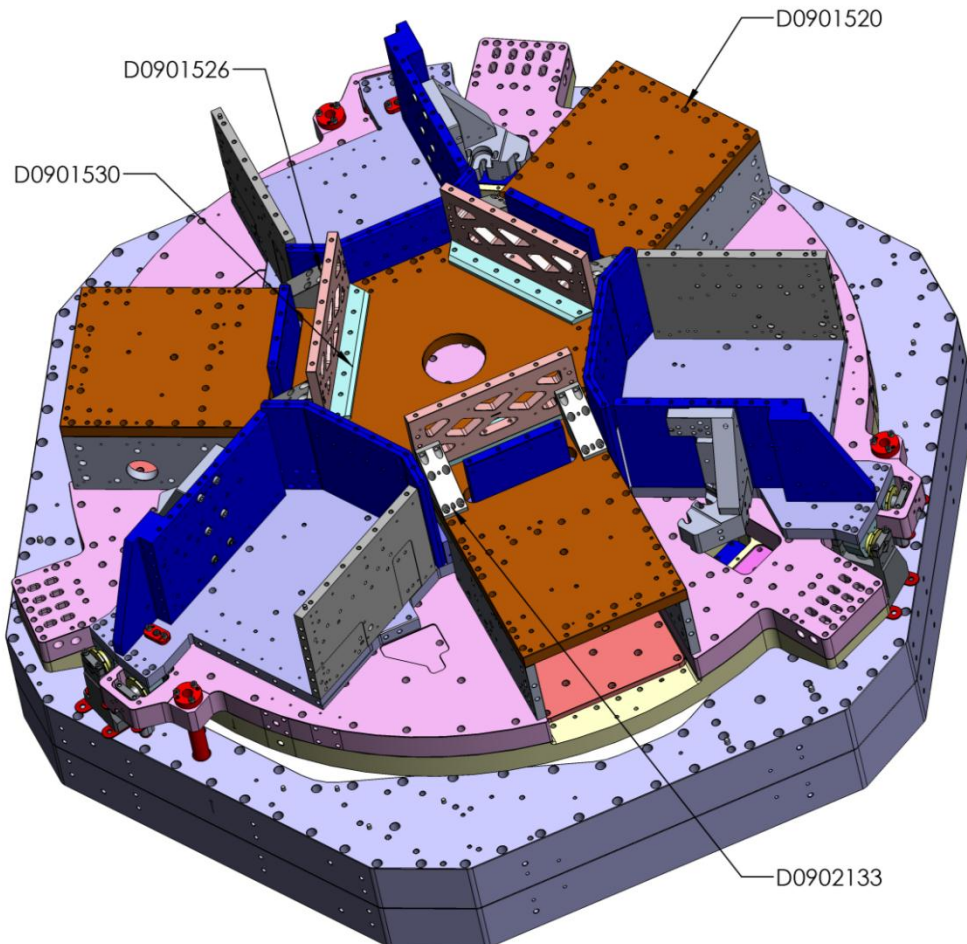

Figure 52: Assembly with D0902133 Hex Wall Gussets on
1.43. Attach (6) D0902133 Hex Wall Gussets to D0901520 Stage 2 Mid Plate.
- Locate (6) D0902133 Hex Wall Gussets on D0901520 Stage 2 Mid Plate with the (2) pins already installed in D091520 (see Figure 52). Make sure pins seat properly into mating hole and slot.
- Locate the Sub-Assembly D0901526 + D0901530 onto D0901520 Stage 2 Mid Plate with the (2) pins already installed in D091520 (see Figure 52). Make sure pins seat properly into mating hole and slot.
- Locate the Sub-Assembly D0901528 + D0901531 onto D0901520 Stage 2 Mid Plate with the (2) pins already installed in D091520 (see Figure 52). Make sure pins seat properly into mating hole and slot.